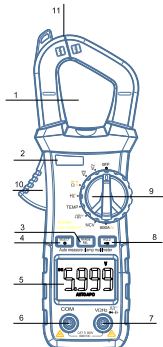

figure 1
1. Turn the range switch to the corresponding “600A gear position, trigger the SELECT button to select the DC current automatic measurement (the default value is DC current), and the internal can be switched to the corresponding range according to the measured value (internal auto range 60A/600A). Using a device close to the electromagnetic field may indicate unstable or incorrect readings. Press REL to clear before measuring. As shown in Figure 1, press the handle 10, according to the size of the measuring wire diameter, slowly open the jaw opening, the measured current line vertically through the center of the clamp, the measured current value and the current polarity of the red test pen point will be displayed on the screen at the same time. The clamp can only measure one conductor at a time. If two or more conductors are measured at the same time, the measurement
Turn the range switch to the corresponding “600A” gear position, trigger the SELECT button to select the AC current automatic measurement (the default value is DC current), and the internal can be switched to the corresponding range according to the measured value (internal auto range 60A/600A). As shown in Figure 1, press the handle 10, according to the size of the measuring wire diameter, slowly open the jaw opening, the measured current line vertically through the center of the clamp, the measured current value and the current polarity of the red test pen point will be displayed on the screen at the same time. The clamp can only measure one conductor at a time. If two or more conductors are measured at the same time, the measurement reading will be wrong.